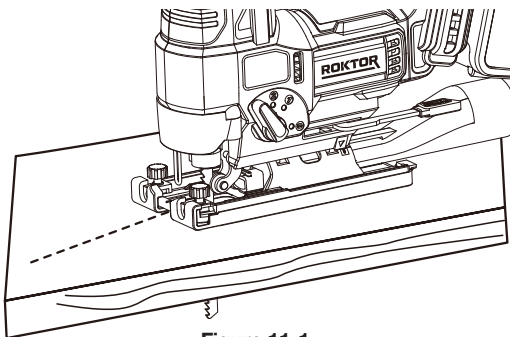

Figure 11-1
6. STRAIGHT CUT AND CURVE CUT (SEE FIG. 11-1 & 11-2)